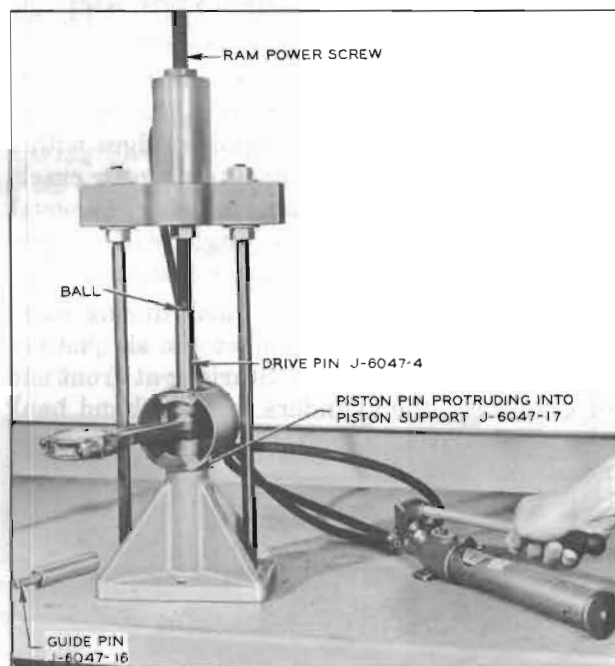

Figure 2-34—Piston Pin Removal
8. Place piston and rod assembly in press, see figure 2-34. Using Piston Support J-6047-17 (with full radial face up) under the piston, place Drive Pin J-6047-4 in upper end of piston pin and press pin from rod and piston. Guide Pin J-6047-16 is not used during pin removal. See figure 2-34.